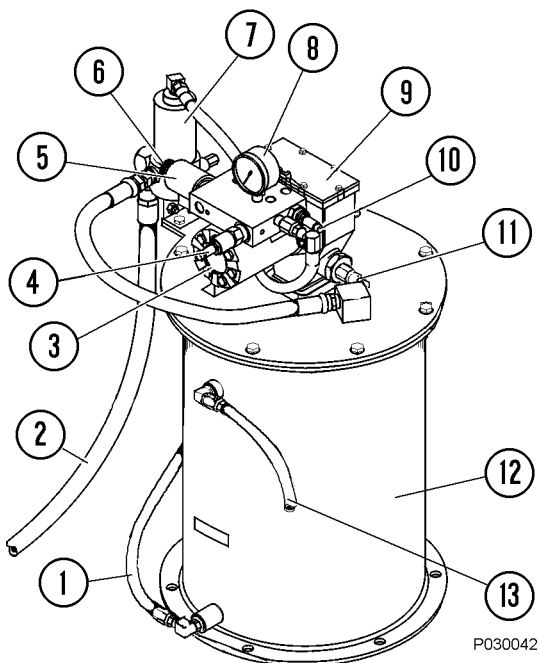

FIGURE 3-1. PUMP COMPONENTS
Grease output is proportional to the hydraulic motor input flow. A pump control manifold mounted on top of the hydraulic motor (3, Figure 3-1), controls input flow and pressure. A 24VDC Solenoid (5) mounted on the manifold turns the pump on and off.